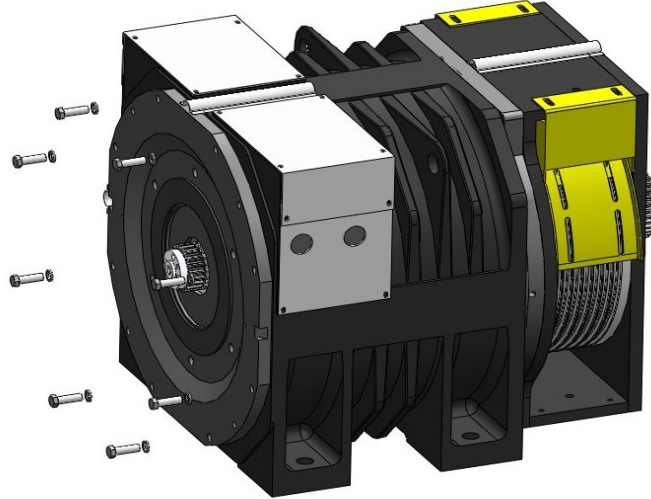

Figure 69 Remove End Cover bolts
1. Make a mark for the end-cover and machine base. Then loosen eight bolts M12x40 with open end wrench (18mm). See Figure 69.